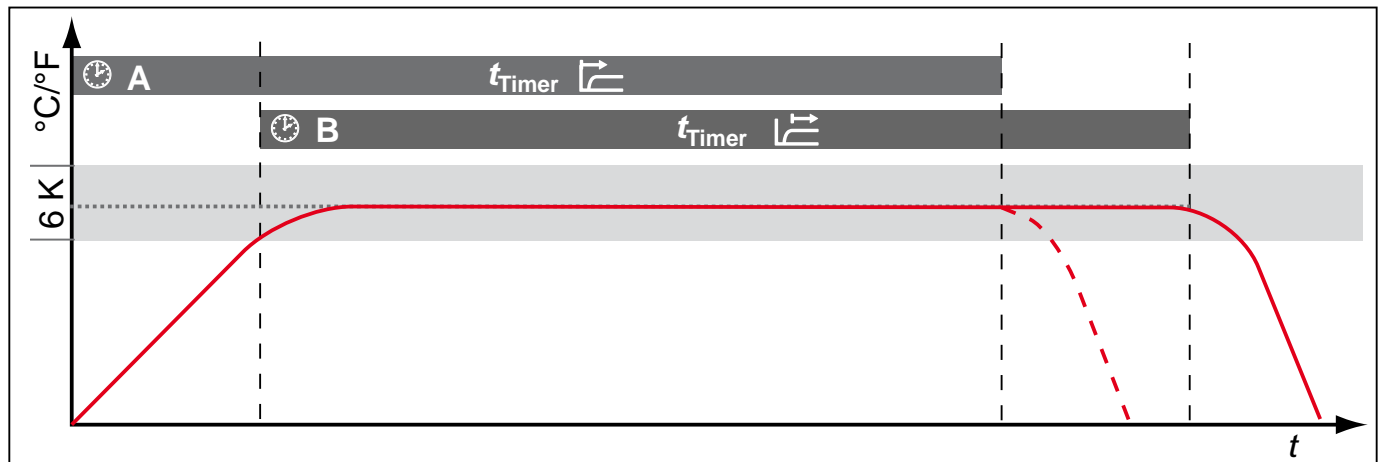

Fig. 34 Timer mode
Here, you can choose whether the digital backwards counter with target time setting (see page 34, timer) should be setpoint-dependent or not – this determines whether the timer should not start until a tolerance band of  $\pm 3$  K around the set temperature is reached (Fig. 34, B) or whether it should start immediately after activation (A).